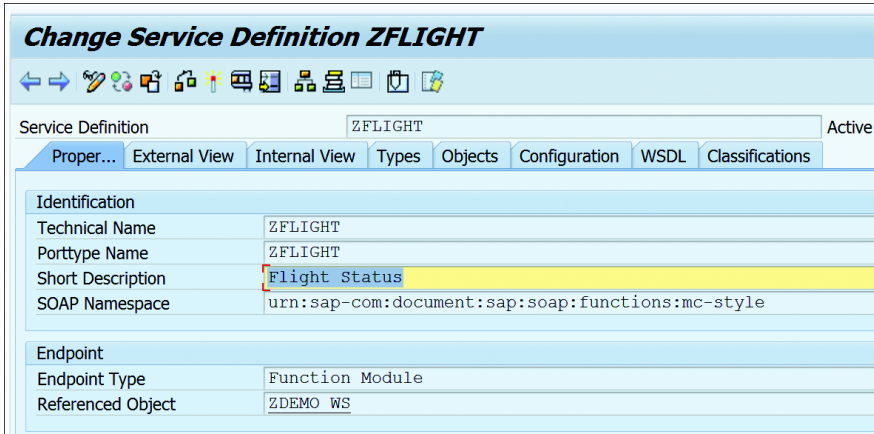

Figure 19.84 Web Service Definition
- In the final step, click `COMPLETE` to create the web service. The system will take you to the web service definition, as shown in Figure 19.84. Activate the web service.